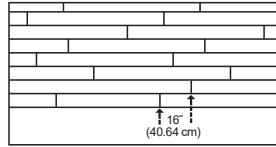

Figure 15
- Check for a tight fit between all edges and ends of each plank. End-joints of adjacent rows should be staggered a minimum of 16" (40.64 cm) when possible, to ensure a more favorable overall appearance (Figure 15).